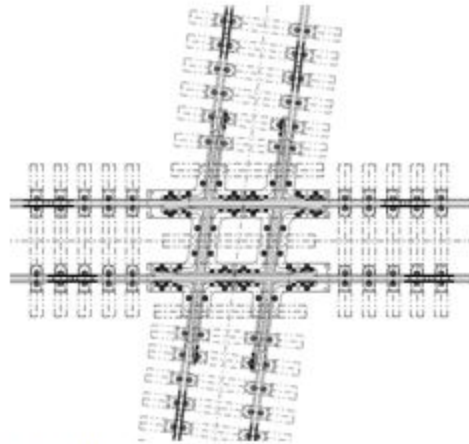

Figure 107L OWLS *Crossing Frog*
- One Way Low Speed (OWLS) Crossing Frog (Diamond) - OWLS crossing frogs (diamonds) are made out of manganese steel or a combination of manganese steel and carbon rail steel and allows for a speed up to 79 MPH on the mainline track and a maximum of 10 MPH on the flange bearing track. (See Figure 107L)